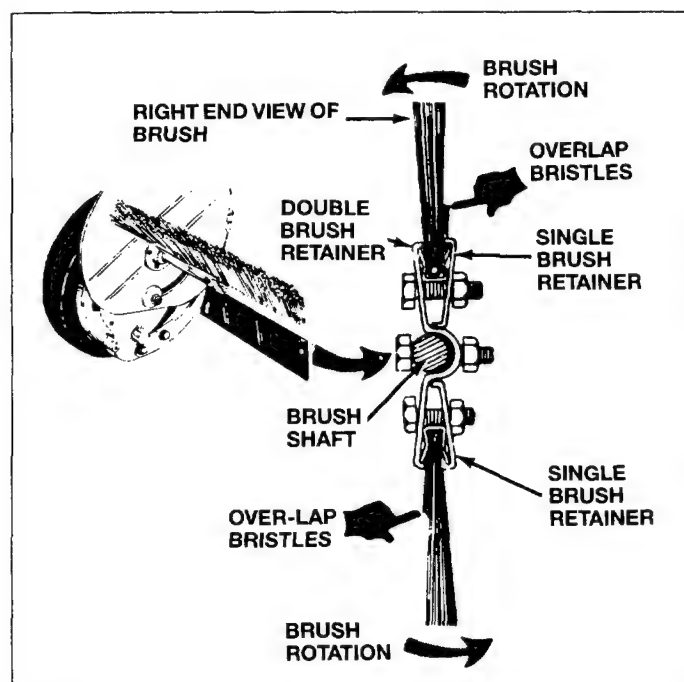

Fig. 36
4. Loosen hex bolts and hex lock nuts from single brush retainers. See figure 36. Slide brush out of retainers, making note of overlap bristles position.
5. Install new brush, making sure over-lap bristles are positioned the same as before and as shown in figure 36 (end view of brush).